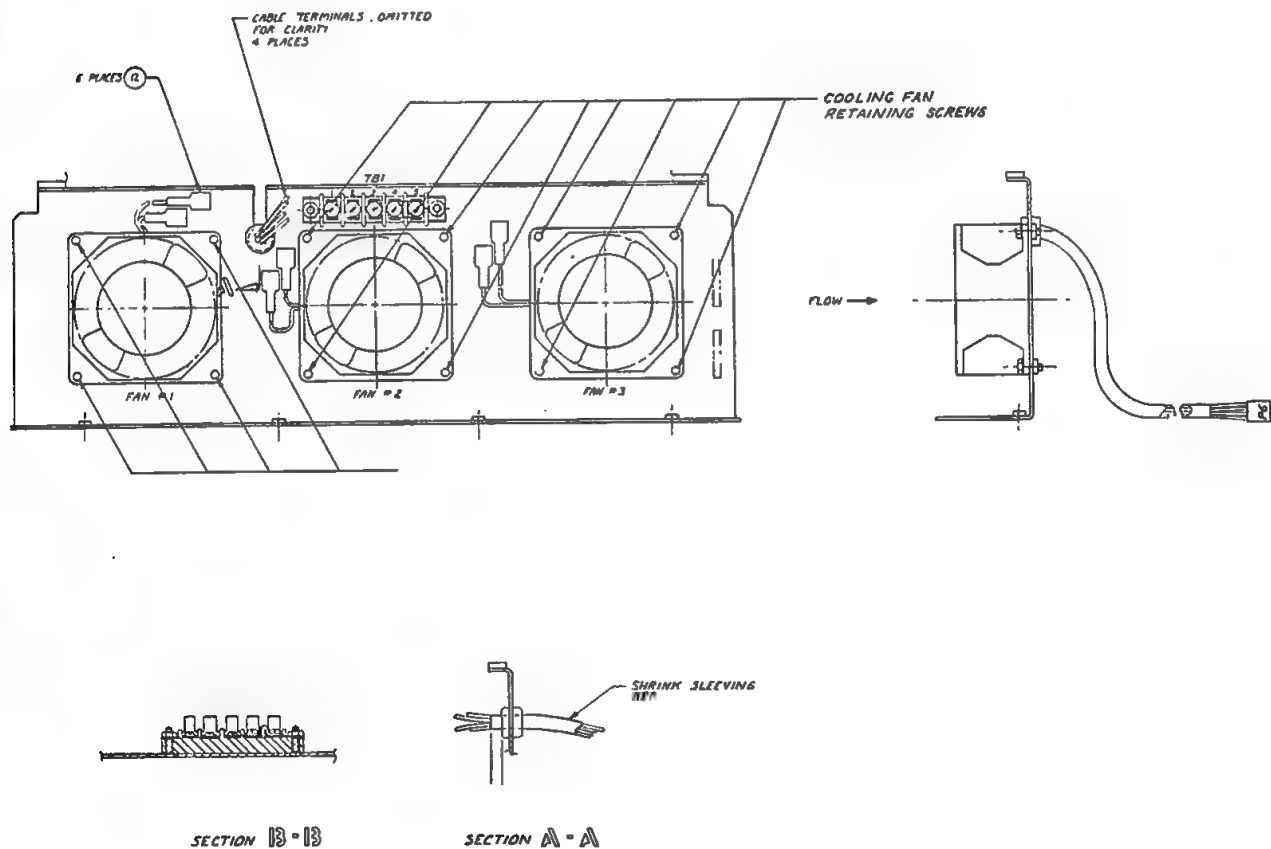

Figure 4-2. Cooling Fan Installation Diagram
- e. Remove and replace fan (see Figure 4-2).